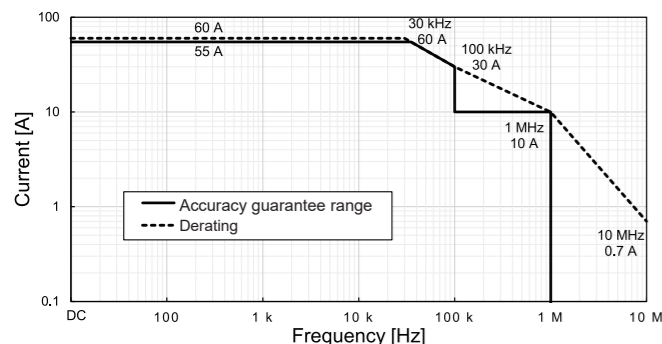

Figure 1. Frequency Derating (at 0°C to 40°C)
Maximum input current	Not exceeding derating curve (See Figure 1.) However, a current of up to ± 200 A peak (design value) is allowable for up to 20 ms.
- Amplitude accuracy and phase accuracy are defined within the accuracy guarantee range shown in Figure 1, "Frequency Derating." However, design values are given for DC < f < 10 Hz.